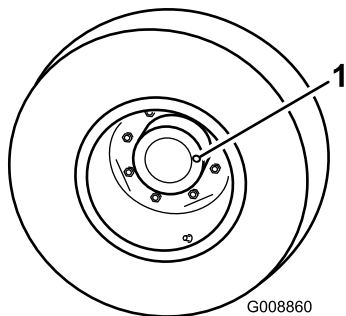

Figure 47
1. With the machine on level surface, position the wheel so that one check plug (Figure 47) is at the 12 o'clock position and the other is at the 3 o'clock position.